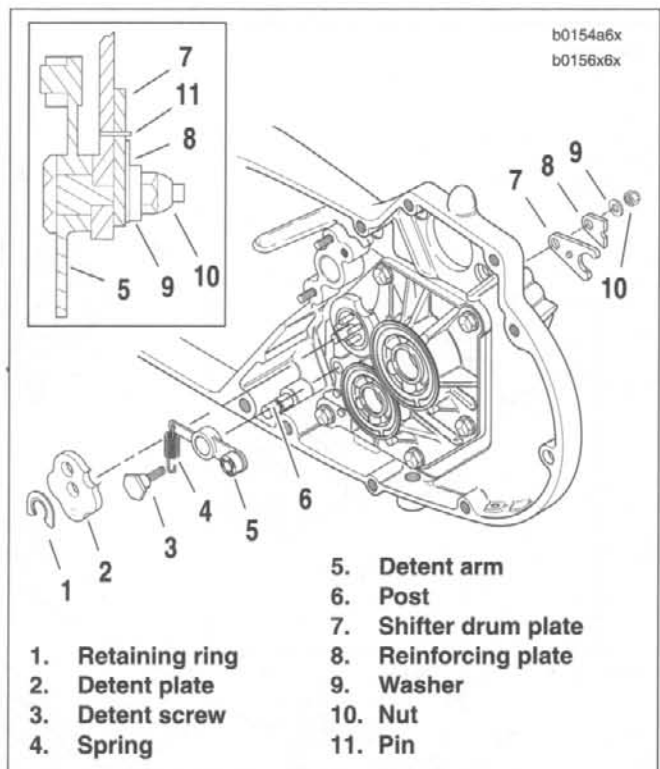

Figure 6-34. Detent Plate Mounting
See Figure 6-34. Detent plate (2) and retaining ring (1) are not installed at this time. These parts are installed during transmission installation after the final shifter pawl adjustment is made. See 6.13 TRANSMISSION INSTALLATION AND SHIFTER PAWL ADJUSTMENT.
- a. At the inside of the access door, place the shifter drum plate (7) in the groove of the drum shaft. See inset Figure 6-34.
- b. Correctly align reinforcement plate (8) with the pin pressed in the shifter drum plate (7).
- c. Insert detent screw (3) through detent arm (5), access door, shifter drum plate (7), reinforcing plate (8) and washer (9).
- d. Thread nut (10) on detent screw. Tighten to 13-17 ft-lbs (17.6-23.0 Nm).